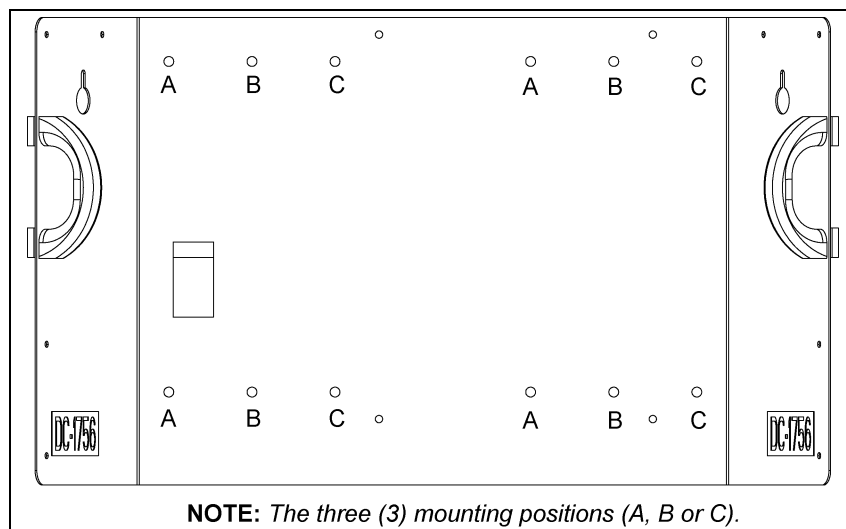

Figure 5C
Open the control panel and mount it to the lift base panel assembly with the supplied hardware. There are three (3) mounting positions on the lift base panel assembly in which to mount the control panel. (See Figure 5C.)